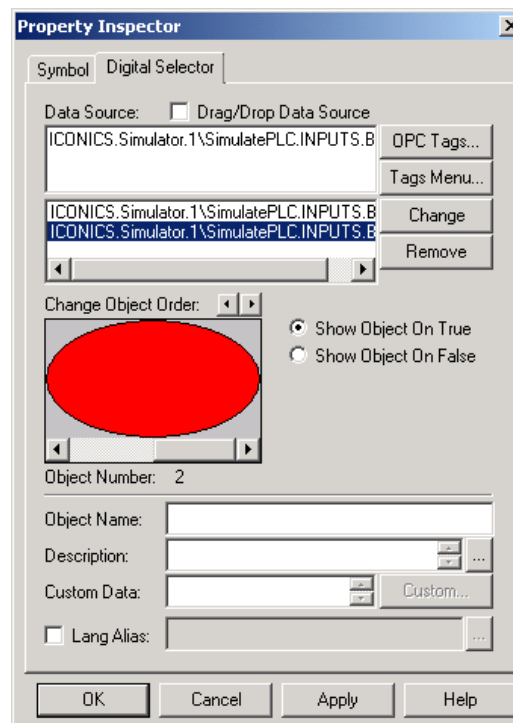

Figure 5.57
17. With object two (**2:**) selected, repeat steps 14-16, but select the **Show Object On True** radio button for this object. Your **Property Inspector** should now look like **Figure 5.57**. Click **Apply** and **Ok** to return to the display.